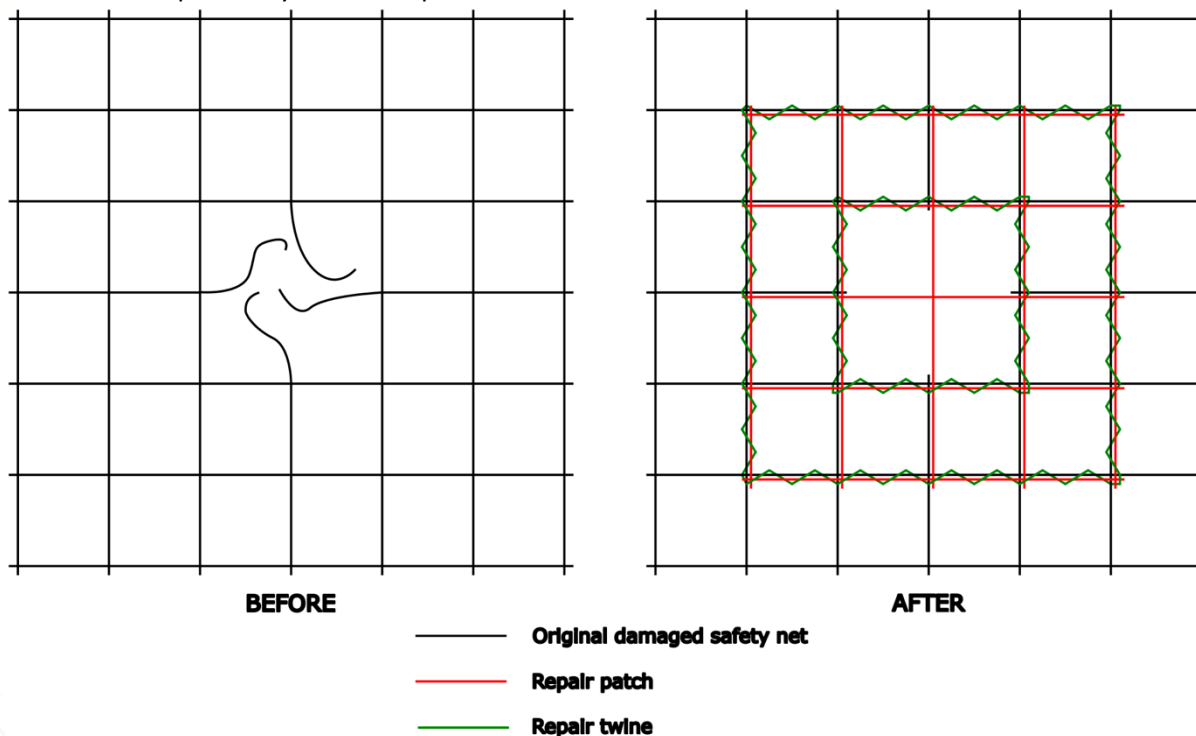

Figure 1. Patch repair using repair twine.
- The repair shall have a minimum of 1 mesh overlap (as shown in Figures 1 & 2).
- By lacing repair twine through both the inside and perimeter meshes of the patch (Figure 1).